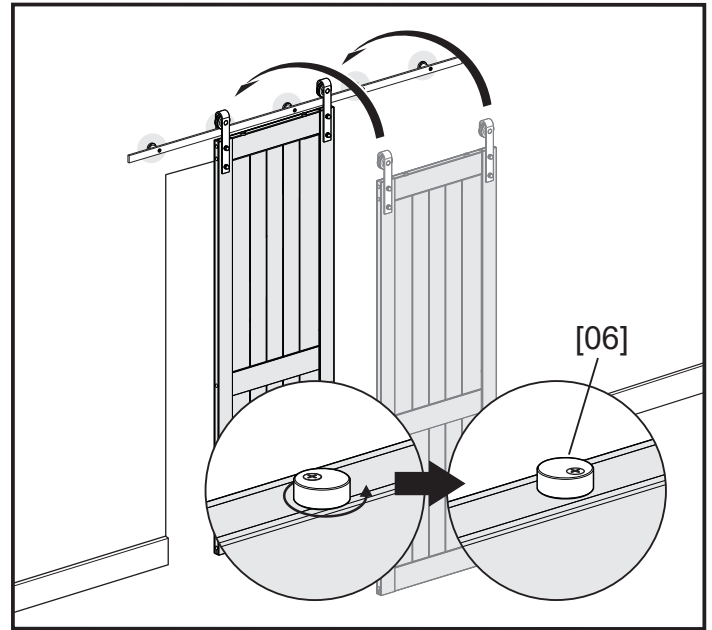

Fig 10
1. Place assembled door with rollers onto track and rotate the **Anti-jump Blocks [06]** as figure 10 shows.
2. Slide door back and forth to test how well the door covers the opening. (Fig 10)